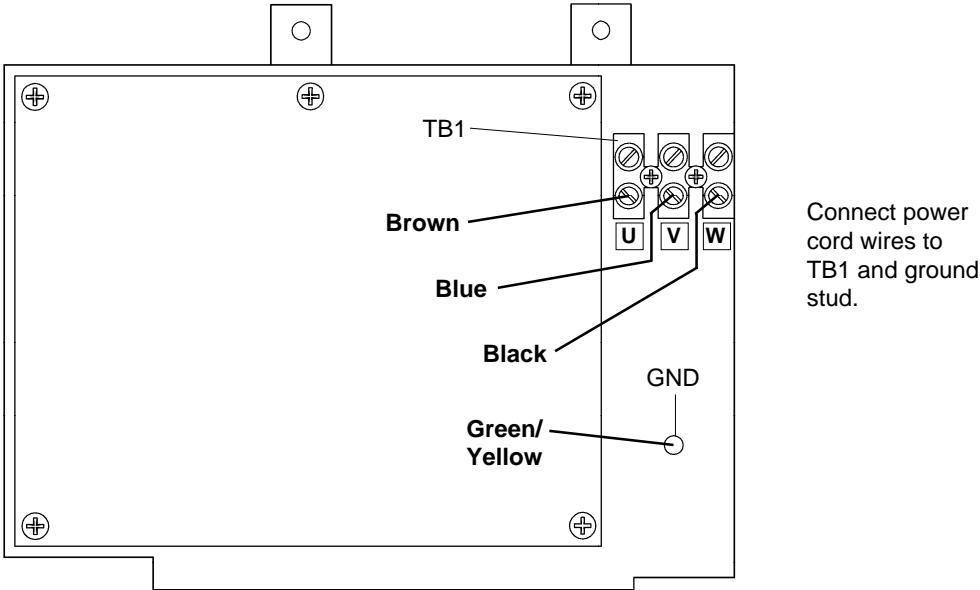

Figure 2-10 Connecting Power Cord to Powermax900 CE Power Supply
2. Connect the power cord wires and the ground wire as shown in Figure 2-10. **Be certain that all wires are fastened securely! Pull on wires after fastening to verify that they will not come loose.**
BE CERTAIN THAT WIRES ARE CONNECTED AS SHOWN IN FIGURE 2-10. AS A PRECAUTION, CHECK CONTINUITY FROM POWER SUPPLY ENCLOSURE TO INCOMING GROUND WIRE BEFORE CONNECTING TO POWER.